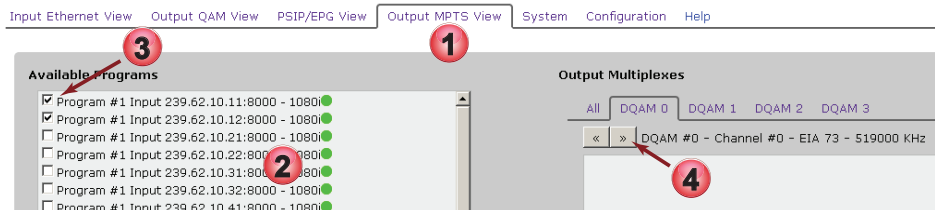

Figure 5-6: Select Programs to Add to MUX
1. Click the **Output MPTS View** tab (or **Output View** tab for Simulcrypt), if it is not already selected, Figure 5-6.